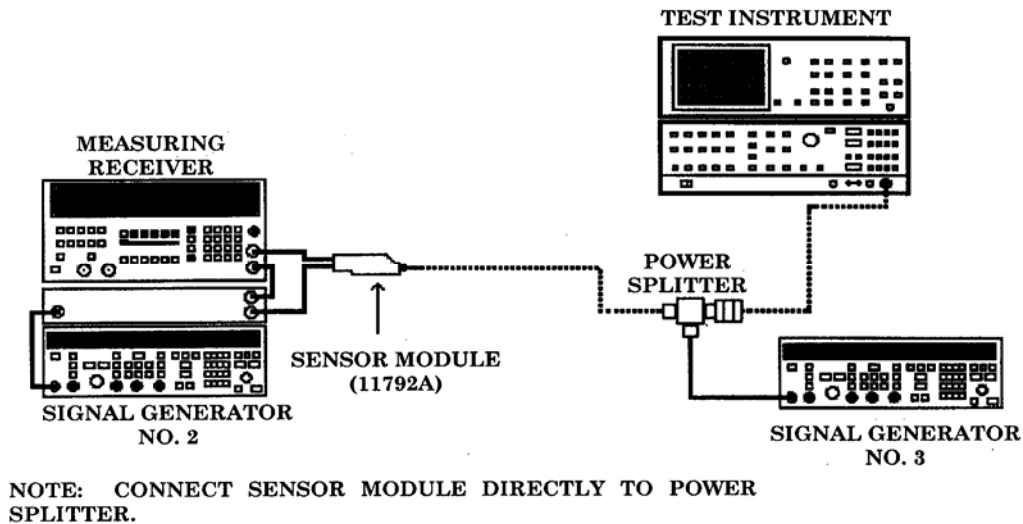

Figure 28. Frequency response connection 2.
(37) Disconnect signal generator No. 1 **RF OUTPUT** from the power splitter input.
(38) Connect equipment as shown in figure 28.